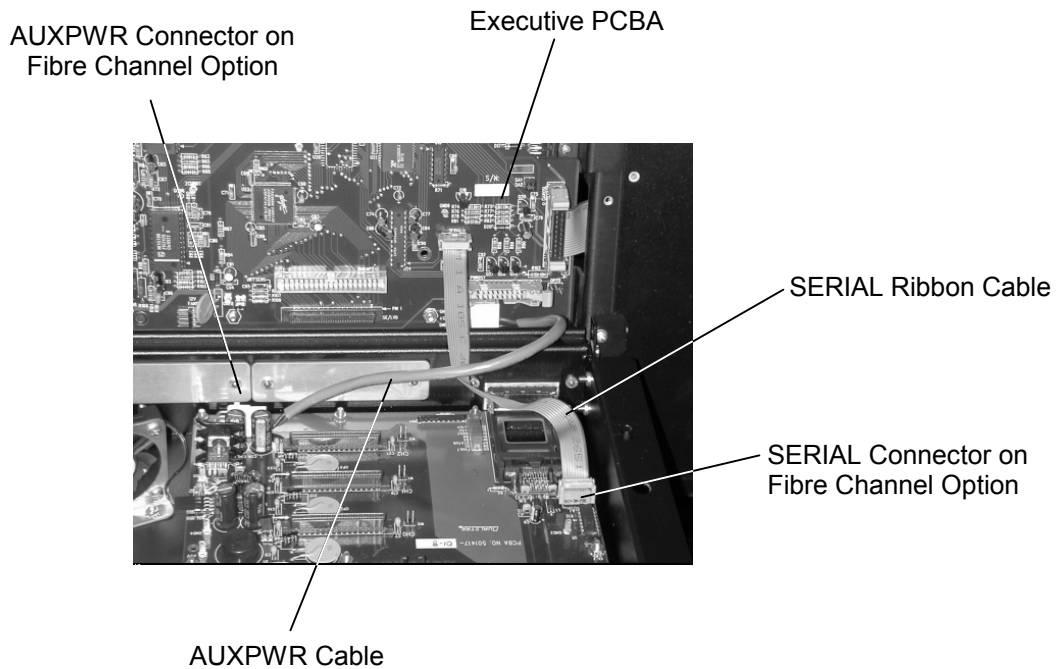

Figure 9-4 Detail of AUXPWR and SERIAL Connections in a Type A FCO
- Carefully disconnect the AUXPWR cable from the AUXPWR connector on the Fibre Channel Option. See Figure 9-4.
- Carefully disconnect the SERIAL ribbon cable from the SERIAL connector on the Fibre Channel Option. See Figure 9-4.